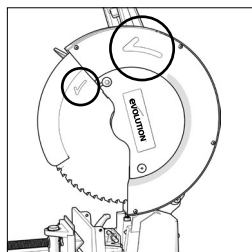

Fig. 6
- Install the blade onto the inner blade flange and arbor, ensuring that the direction and rotation arrow on the blade matches the direction of arrow rotation found on the machine's upper blade guard. (Fig. 6)